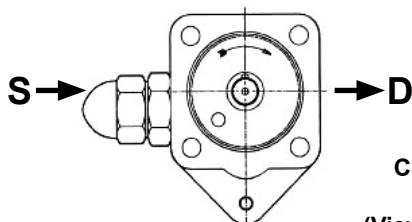
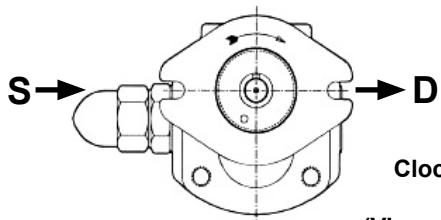
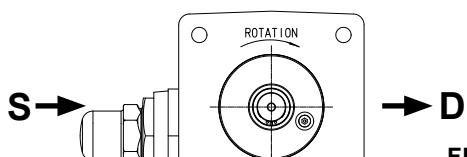

FIGURE 3
FIGURE 4
FIGURE 5
- Suction/Discharge - SG/SGN Series pumps are designed for clockwise rotation as standard (viewed from end of shaft). Refer to **Figure 3**, **Figure 4** and **Figure 5**. Always check rotation arrow on nameplate before mounting and start-up.